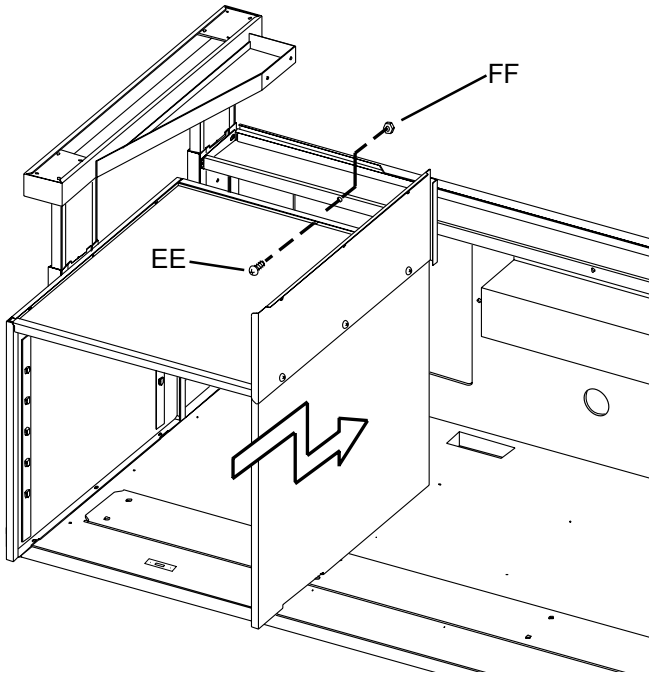
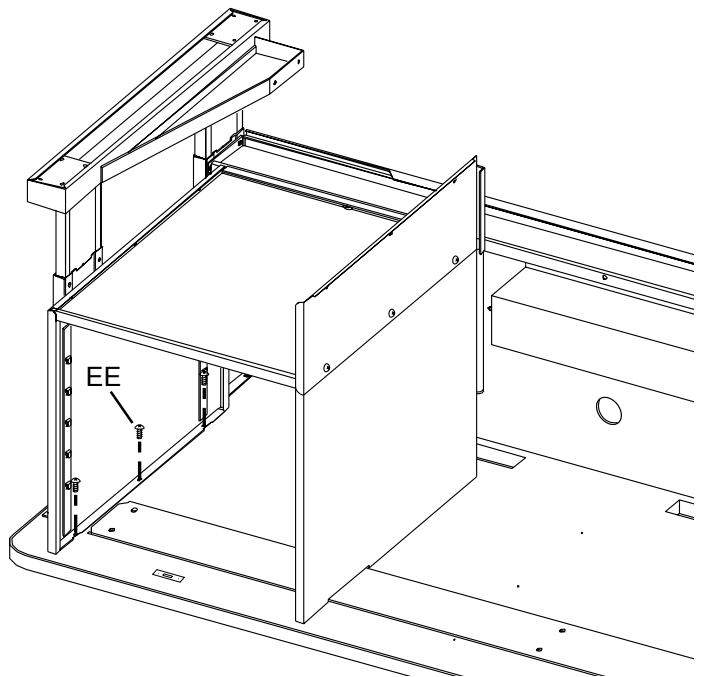

FIGURE 7
FIGURE 8
Position cabinet onto unit with holes in bottom shelf and modesty panel shelf lining up. Secure through hole with screw (EE) and nut (FF) as shown in **Figure 7**. Secure cabinet sides to wood top using screws (EE) as shown in **Figure 8**. Position the cabinet shelves in desired location once unit is upright.